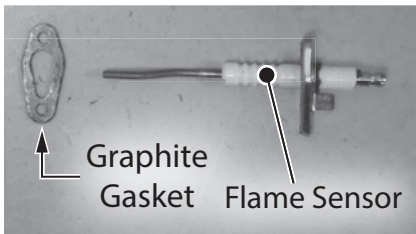

Figure 71 - Install flame sensor and graphite gasket
- 8 Locate the new flame sensor assembly and graphite gasket provided in the kit. Orient the graphite gasket as shown in Figure 71 and install to flame sensor assembly.